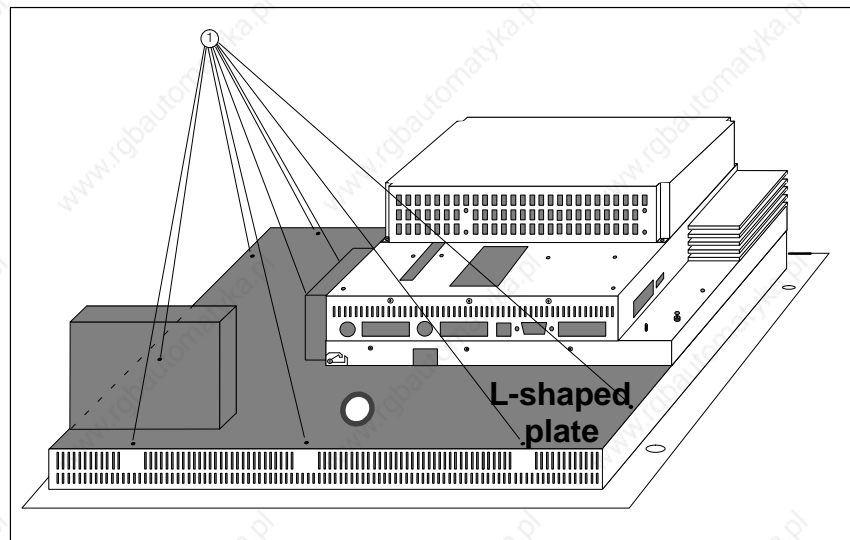

Figure 6-7 Removing the L-shaped plate.
2. Release the nine screws marked in Figure 6-7 with the number ① from the L-shaped plate; two of them are on the cover plate next to the PCMCIA slot.
3. Remove the L-shaped plate shaded grey in Figure 6-7.
To replace the hard disk, the PC box must be folded out after the L-shaped plate has been removed (see Figure 6-7).